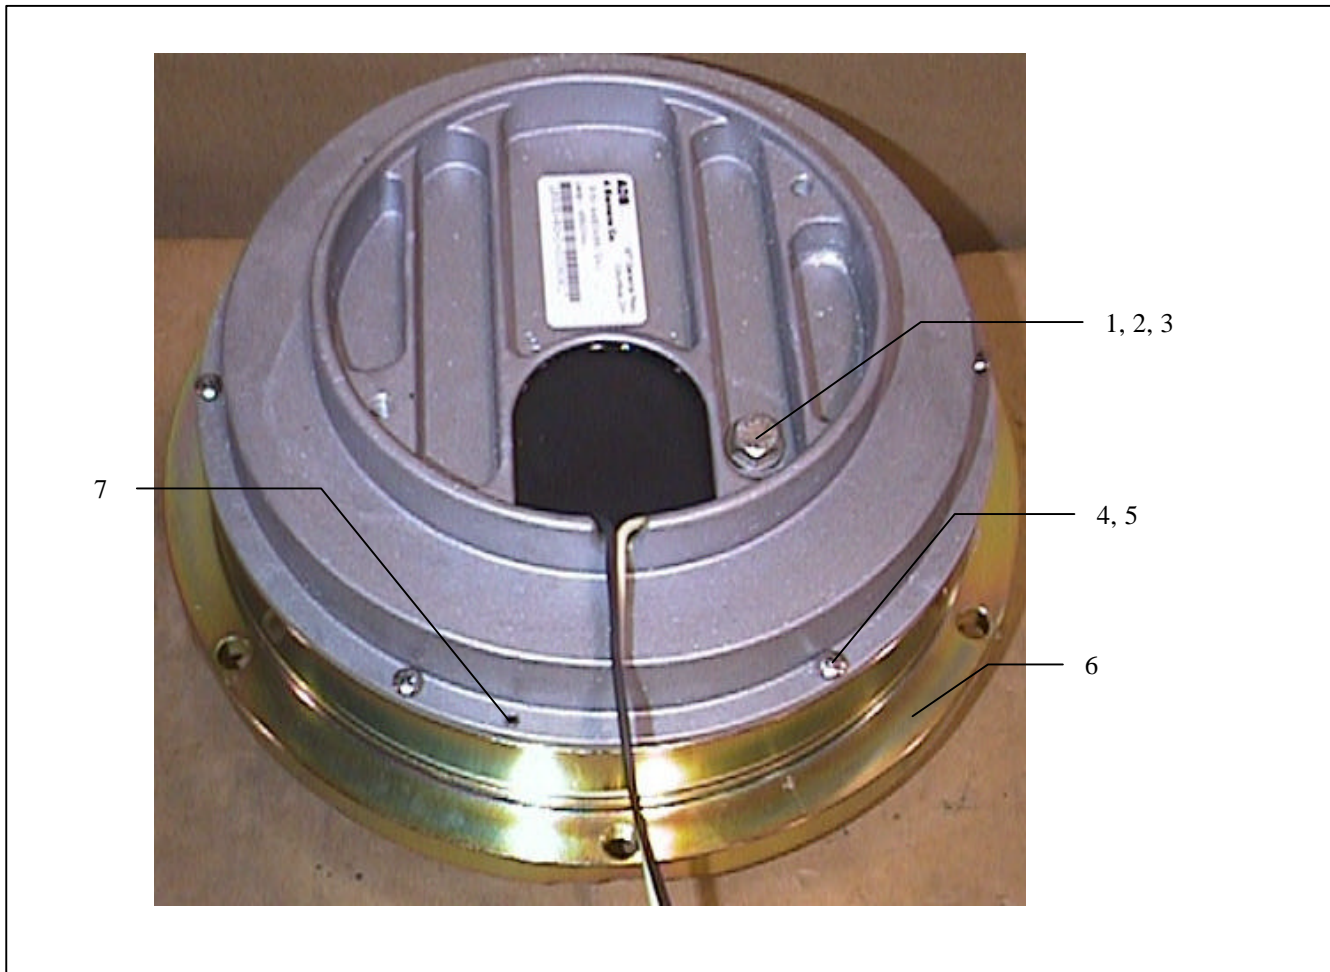
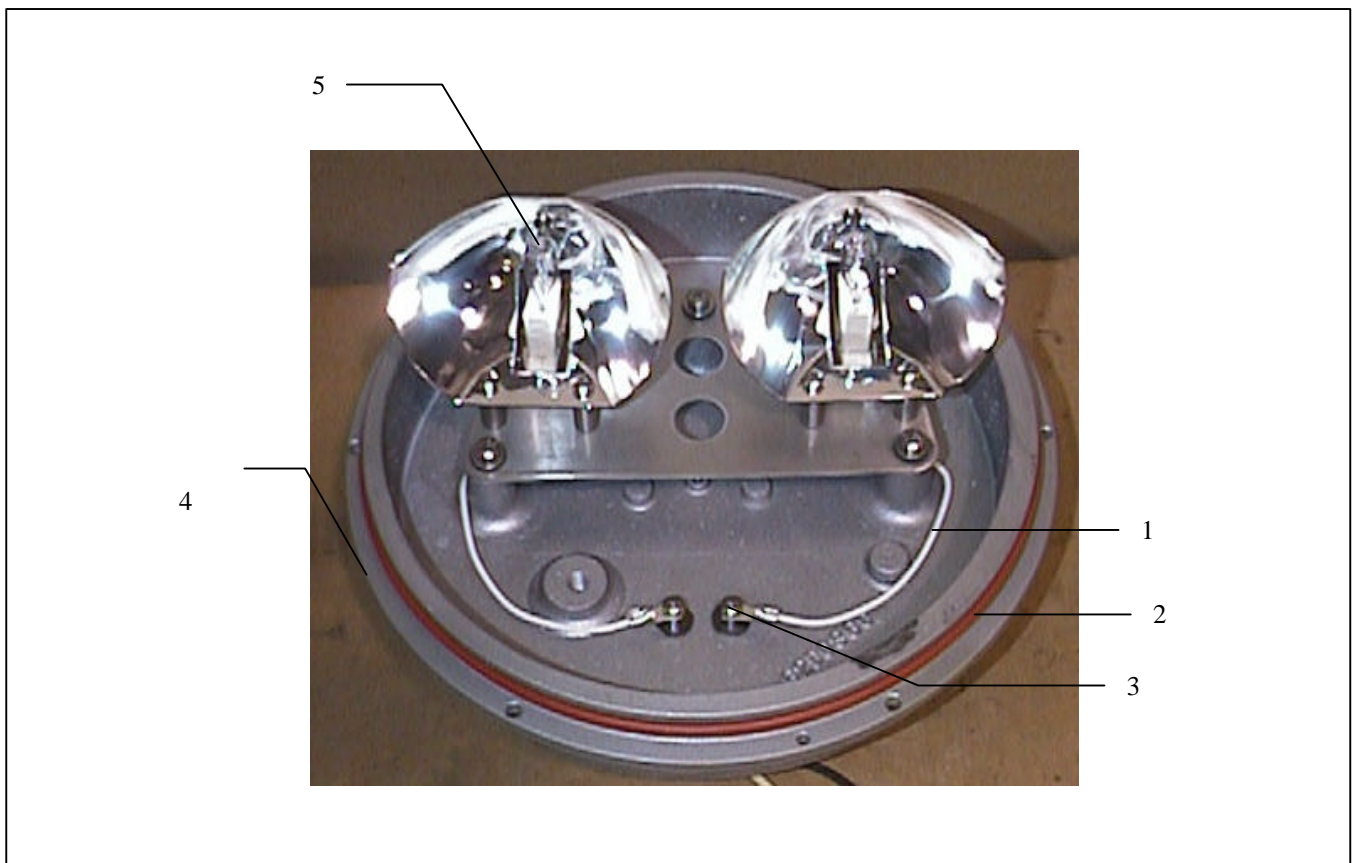

Figure 12. L-850E Approach Light (Upside Down View)
Figure 13. Optical Assembly (Front View)
3. See Figure 12. Rotate the light assembly so that the cover assembly is on a workbench and the cover assembly is facing up.
9. See Figure 13. Remove and replace the O-ring (2), if necessary.
14. Examine the O-rings (Item 3, Figure 12; Item 2, Figure 13) carefully. If the O-ring is stretched or torn, replace with a new O-ring.
15. See Figure 13. Coat the O-ring (2) with GE No. 624 Silicone grease before installing. Carefully position the O-ring in the groove on the inner cover assembly and gently press into place.
18. See Figure 12. Apply no more than one drop of Loctite Grade AV to the threads of each of the six #10–32 round head screws (4) and insert the screws with lockwashers (5) into the inner cover assembly (6).
19. Secure inner cover assembly to cover assembly and torque the six round head screws (4) to 65 ± 5 inch-pounds (7.3 ± 0.6 Nt-m). Torque across corners. Refer to *Torquing Mounting Bolts* in this section.
4. See Figure 13. Remove one screw (3) from one terminal of wire assembly #2 (1) on the inner cover assembly and connect the loosened wire to the insulation tester. Connect the other lead of the insulation tester to the inner cover assembly. 500 megohms minimum resistance between the wire assembly and the inner cover assembly must exist.
1. See Figure 12. Remove the pressure relief bolt (1), washer (2), and O-ring (3) to equalize pressure inside the light assembly with outside pressure.
3. See Figure 12. Remove six round head screws (4) and six lockwashers (5) from the inner cover assembly.
5. Run one 1/2 inch (12.7 mm) by 16-inch- (406-mm-) long rod (2) through each of the two eyebolts.
6. See Figure 12. Pull the inner cover assembly (6) from the cover assembly.
8. See Figure 12. Remove and replace the O-ring (3), if necessary.
2. See Figure 13. Pull the lamp (5) out of the lamp socket.